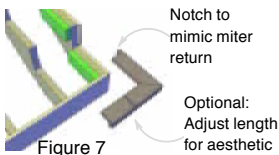

Figure 7
- Cut and pre-assemble the trims for each step. * For Pre-Fab Corners #9979, see figures 7 and 8.